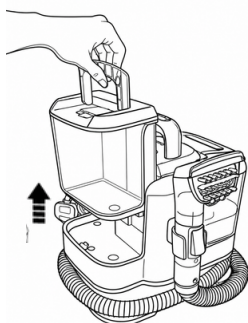

Fig. 4
1. Grab the water tank handle and lift vertically to remove the clean water tank (Fig.4)